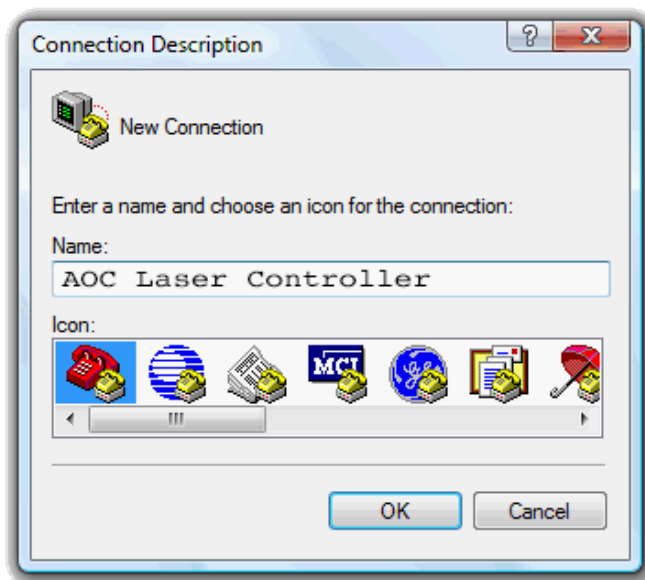

Figure 11: Naming the Connection.
- Once HyperTerminal opens, it will automatically prompt you to create a new connection if none exist. If no connection(s) exists, you can click File | New Connection to create a new one, we suggest that you pick a unique name such as "AOC Laser Controller" see Figure 11.